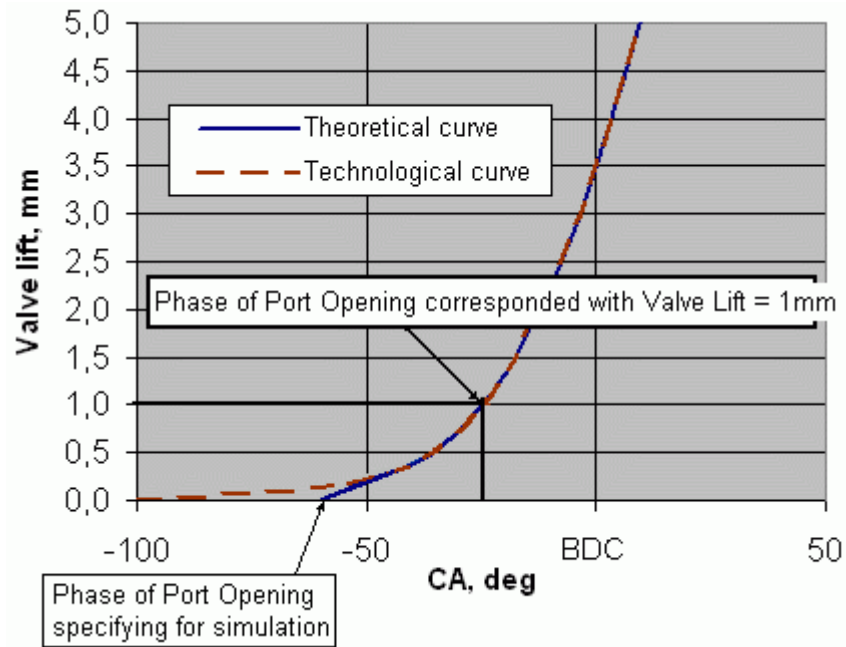

Fig. 4. Illustration for specification of the port timing of four stroke engine.
To provide robustness of valve train a cam profile starts the rising much early as it shown in fig. 4 by "Technological curve".
- IVO: Angle of the intake BEGINNING [deg. before TDC] (fig. 4).